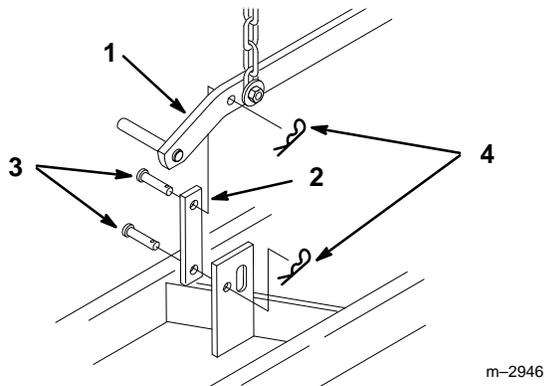

Figure 8
3. Remove (2) clevis pins and hairpin cotters securing lift link between blade and tractor attachment lift (Fig. 8).